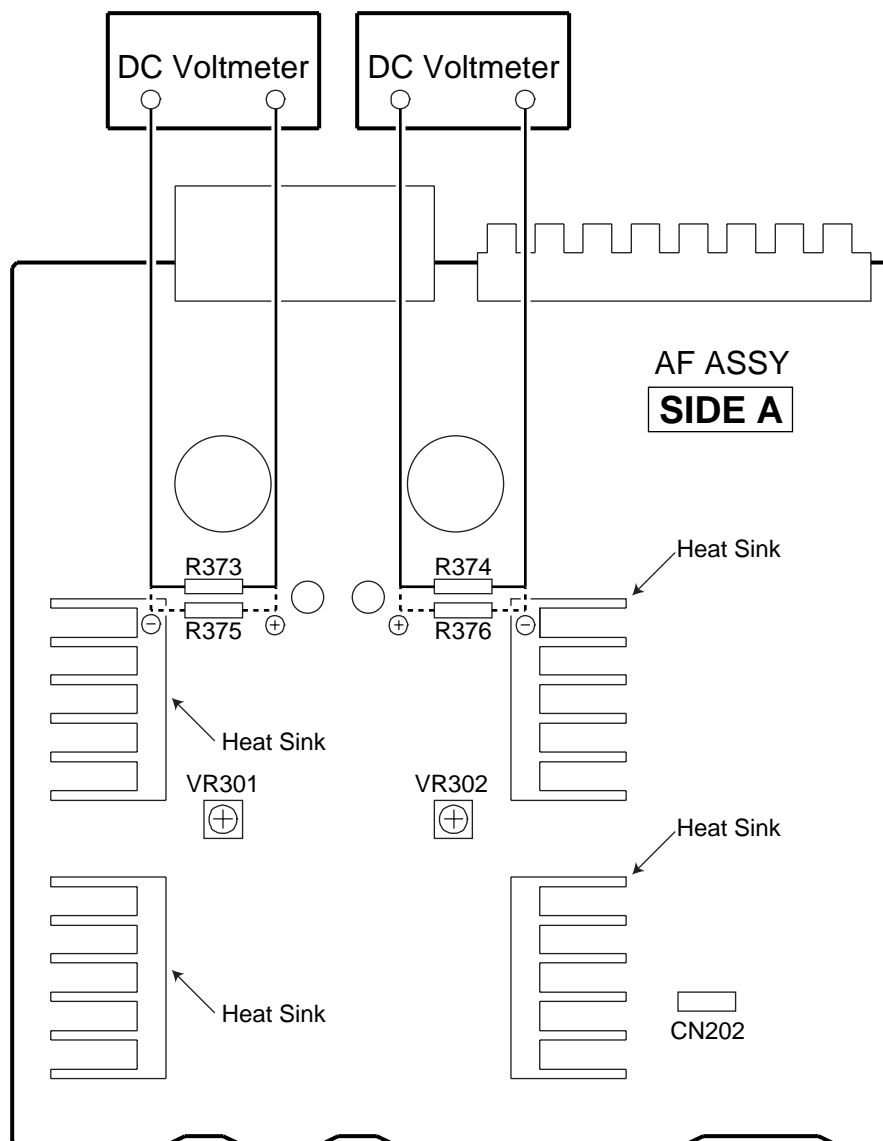

Fig.6-1 Adjustment Method
1. Connect the measuring instrument as shown in Fig.6-1. (R373 or R374)